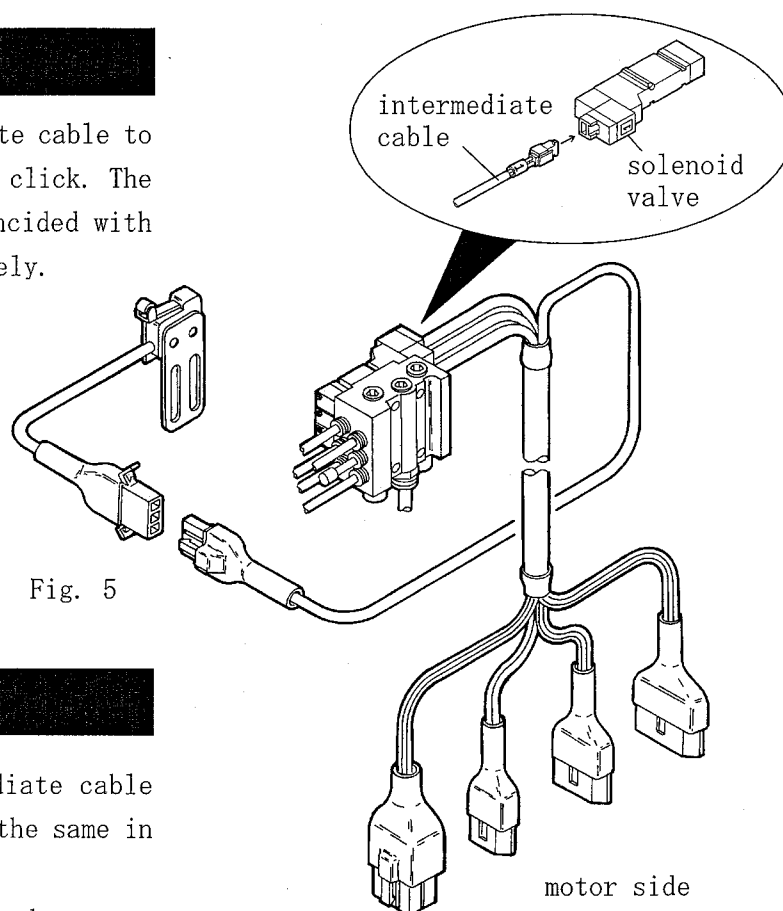

Fig. 5
1. Figure 5 shows three solenoid valves.